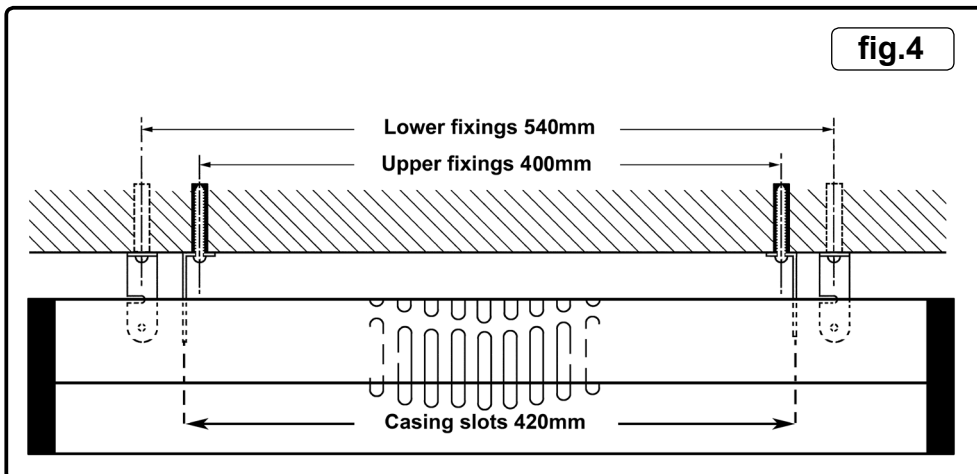
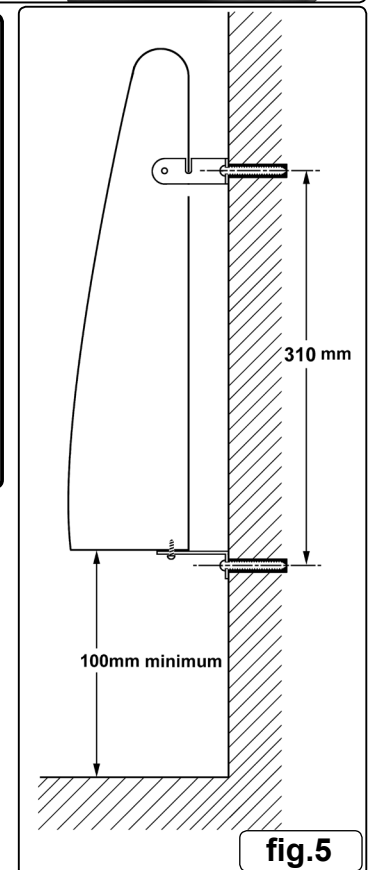

fig.4
fig.5
- 3.5. Take the other pair of brackets and fix them to the wall with the wall plugs provided as shown in fig.6. The hanging slots should be facing upwards and the two brackets should be facing towards each other 420mm apart as shown in fig.4. The fixings should be at least 800mm above the floor to give a minimum clearance of 100mm between the bottom of the heater and the floor as shown in fig.5. When the heater is wall mounted the feet are not required.